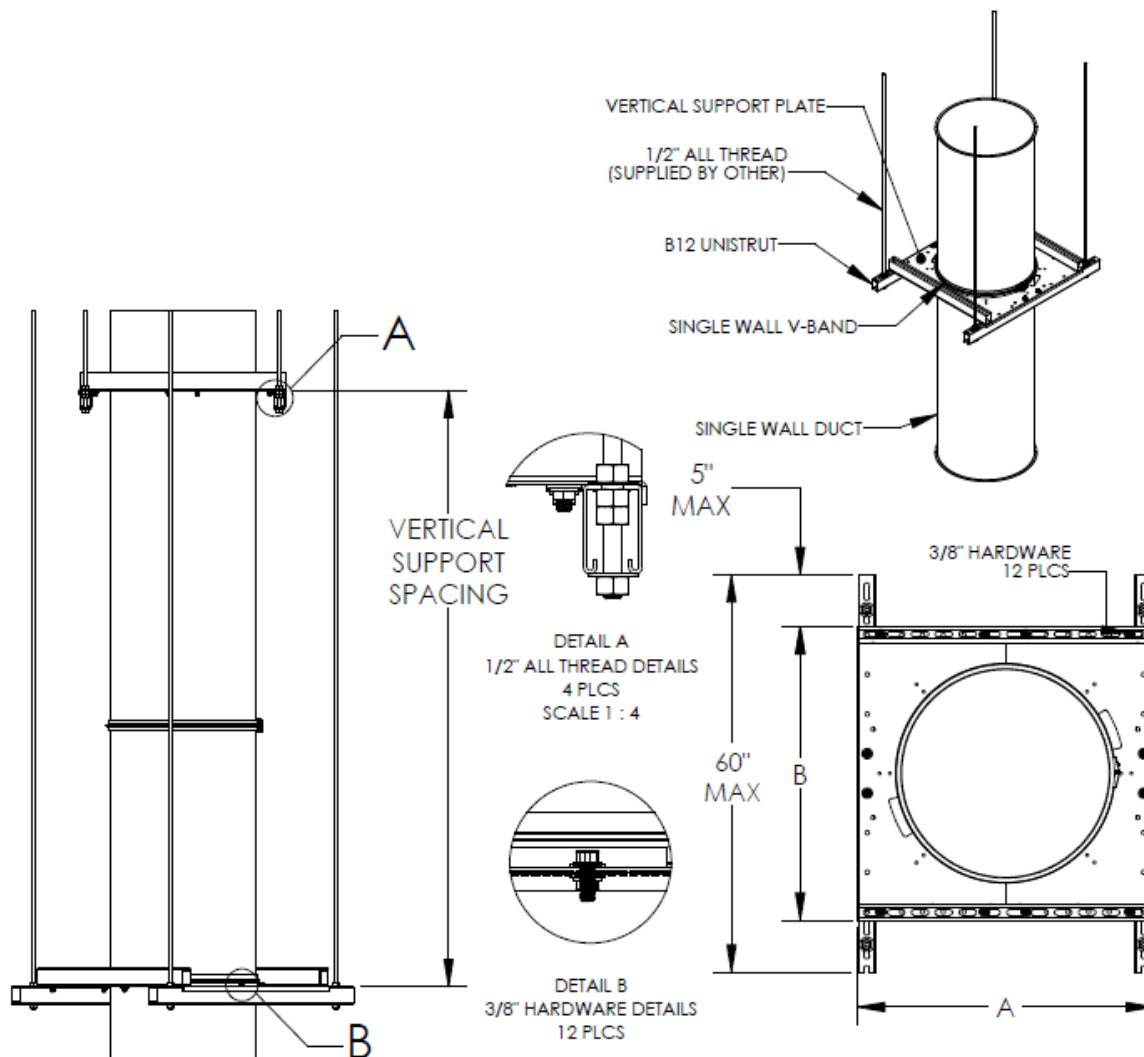

Figure 6. Ceiling Vertical Support Assembly
D. FLOOR/CEILING VERTICAL SUPPORT ASSEMBLY – Use the floor or ceiling support assembly (refer to Figures 6 and 7) supplied by the duct manufacturer and consisting of two 12 GA galvanized steel vertical support half-plates and B12 Unistrut sections. Also use 1/2 in.
steel threaded rod hangars for ceiling support assembly as shown in Figure 6. Assemble the supports as shown in Figures 6 and 7 using supplied 3/8 in. hardware. Ensure the max. unsupported length of grease duct (Item